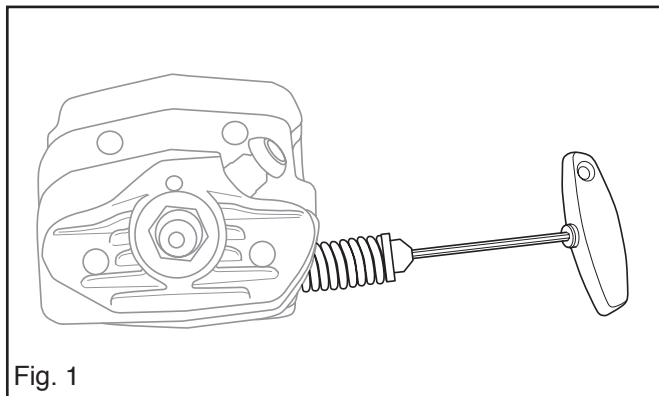
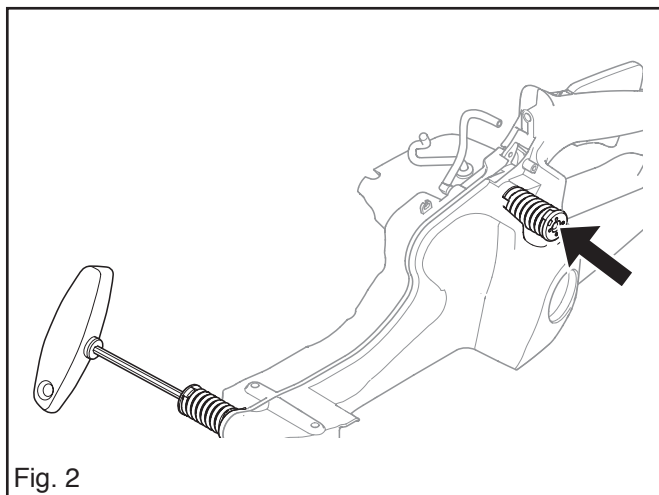

Fig. 1
Fig. 2
2. Remove the spring on the cylinder with a 4 mm Allen key. See fig. 1.
3. Remove the springs on the tank unit with a 4 mm Allen key. See fig. 2.
1. Fit the springs on the cylinder and tank with a 4 mm Allen key. See fig. 1 and fig. 2.